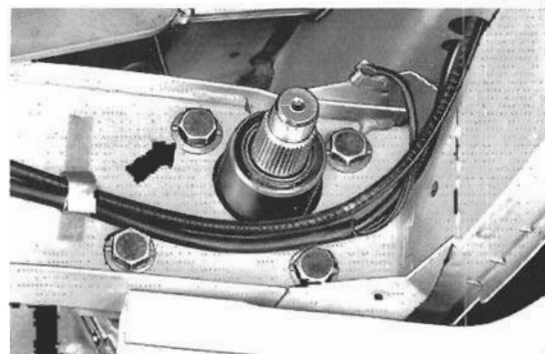

Fig. 9-17. Bolts that hold gearbox to frame.
5. Remove the bolts indicated in Fig. 9-17. Then push the steering column upward and remove the gearbox from the frame sidemember.